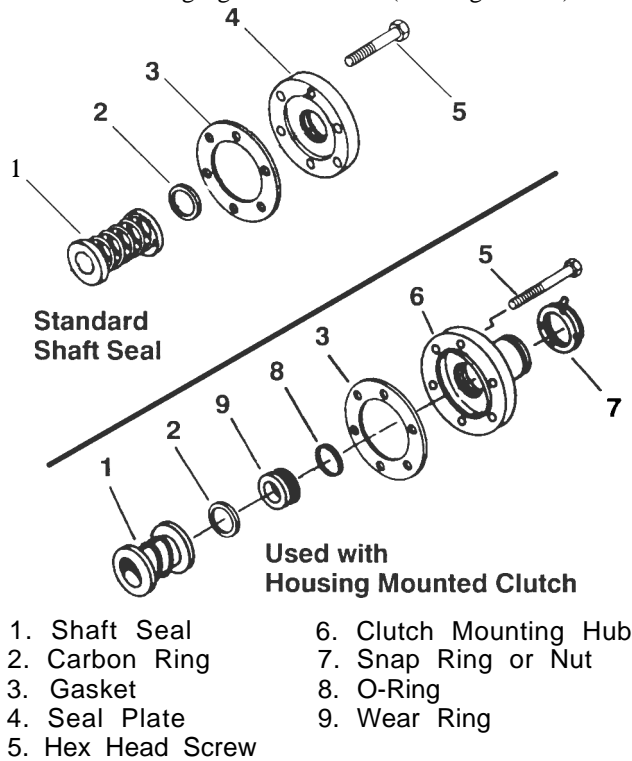

Figure 3-8. Shaft Seal
1. Remove 6 capscrews, remove shaft seal cover or clutch mounting hub and carbon washer. (See Figure 3-8)